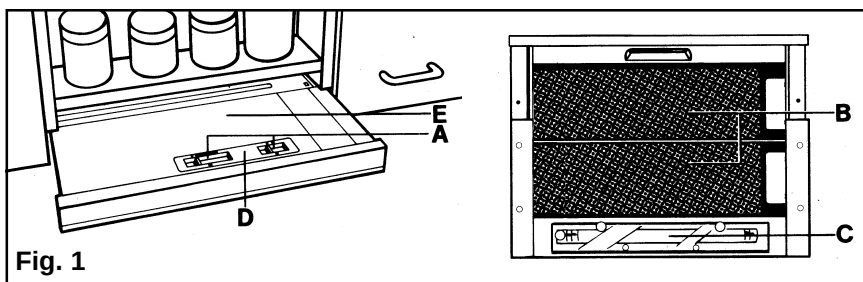

Fig. 1
- The switches are arranged on the upper right side of the vapour catcher. (**Fig. 1 - E**). The numbers and symbols have the following meanings (from left to right):